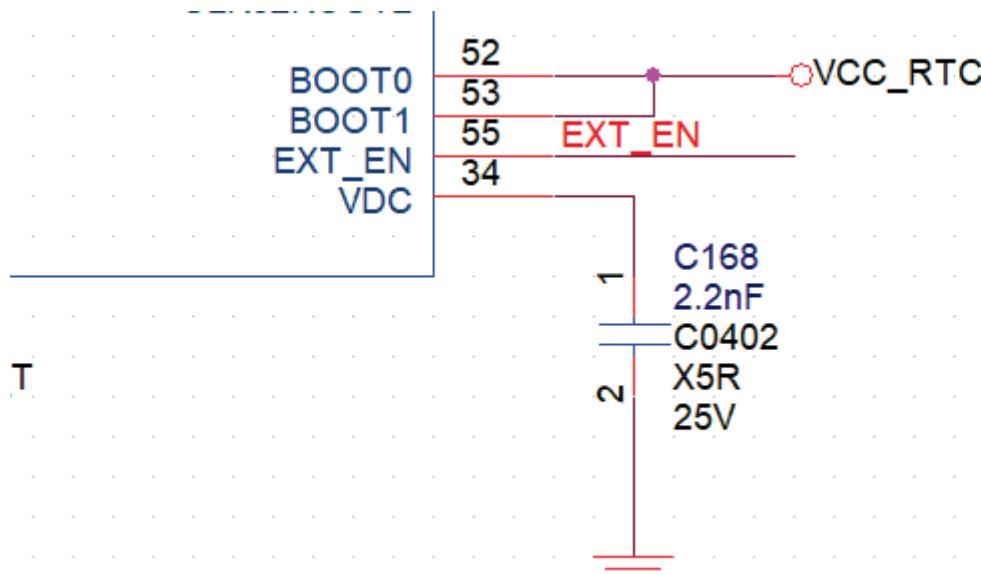

Figure 3-31 VDC Application circuit 3
- In the product need to be power up/off use only power-key, the pin of VDC only need to be a capacitor to GND(VDC could not floating),shown as Figure 3-31.